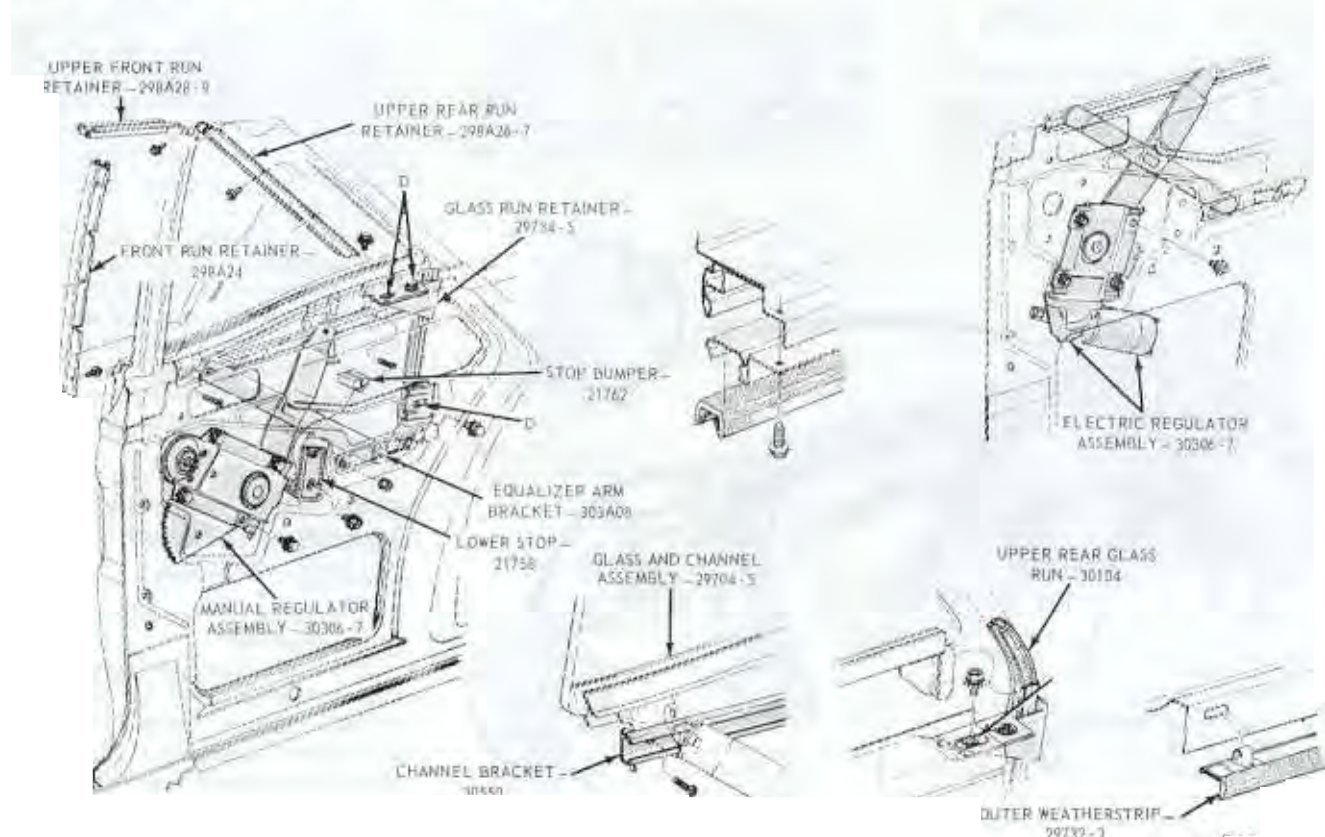

FIG. 7—Quarter Window Mechanism—Falcon, Comet, Fairlane—Model 62
2. To obtain proper clearance between the quarter window assembly and the quarter window glass run retainer assembly, operate the window to its full down position, loosen screw and washer assembly D, and adjust the retainer assembly forward. After adjustment, tighten the screw and washer assembly finger tight (Fig. 7).